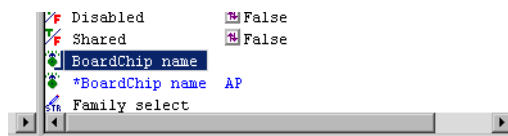

Figure 13-5 New BoardChip_name setting in connection properties
3. Select the name of the required group, for example **AP** for the Integrator/AP motherboard. A new entry is displayed in the right pane, which is colored blue, and has an asterisk * beside it, for example *BoardChip_name AP, shown in Figure 13-5.